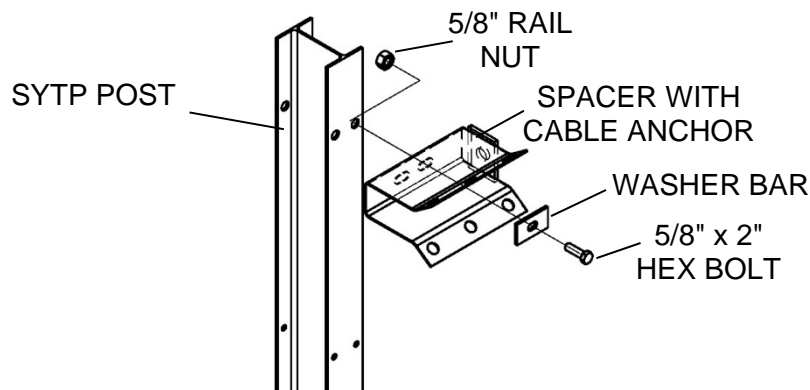

Figure 10 - Spacer with Cable Anchor Attachment
- 4.4 Next use (1) 5/8" x 2" hex bolt, (1) Washer Bar and (1) 5/8" rail nut to attach the Spacer with Cable Anchor to the SYTP Post (i.e., Post 2). All of the Spacers have two slots on the inside for mounting, orient as shown in Figure 10.